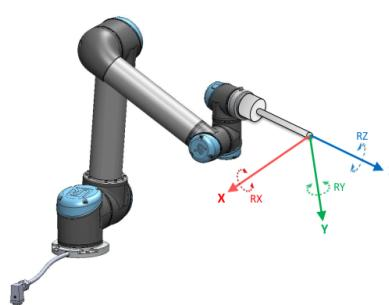

Figure 17.2: Tool (TCP) feature
- The Tool feature is located with origin in the centre of the current TCP (see figure 17.2)